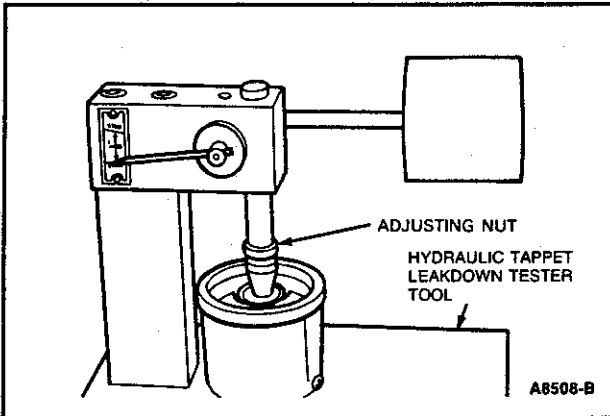

Figure 10 Adjusting the Ram Length
4. Adjust the length of the ram (Figure 10) so that the pointer is 1.59mm (1/16 inch) below the starting mark when the ram contacts the tappet plunger, to facilitate timing as the pointer passes the Start Timing mark.